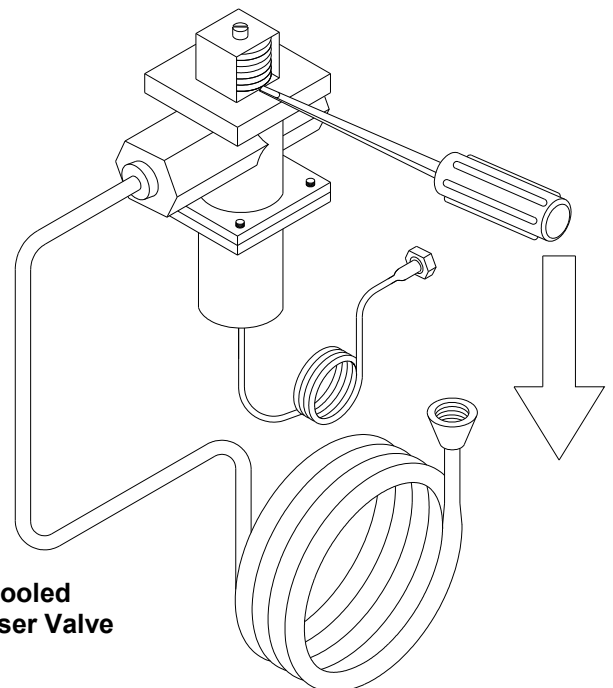

Fig. 32
6. On water-cooled units, disconnect the water lines. Use compressed air to blow out all remaining water in the condenser. Insert a screwdriver (Fig. 32) to open the water valve. **Note:** Failure to purge the machine of water can result in severe damage to the cooling system.